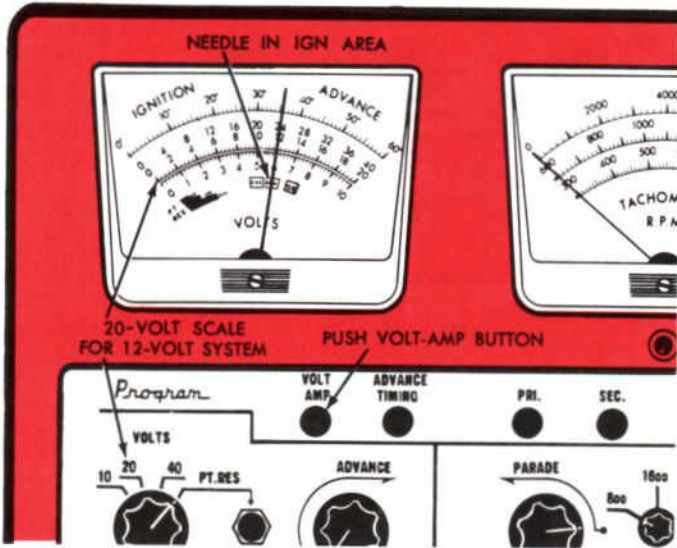

Figure 4—Battery Voltage Test
1. Select the correct voltage scale for the battery being tested (Figure 4). For 6-volt systems, use the 10 volt scale; for 12 volt systems, use the 20 volt scale.